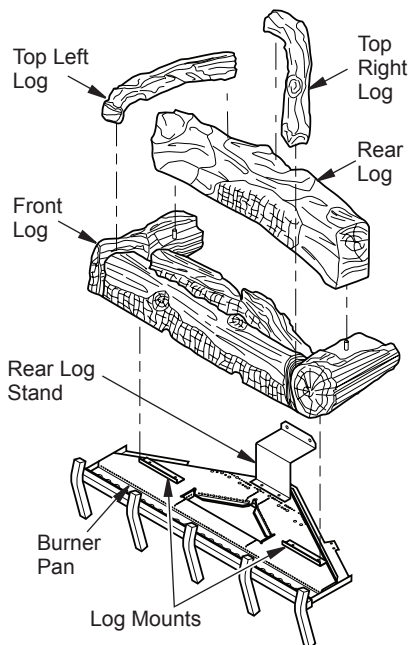

Figure 46 - Installing Logs
1. Position base log onto burner log mounts (see Figure 46). *Note: Cut out on the bottom should fit over mounts and base log should be positioned against rear panel.*
2. Position holes on the bottom of rear log over pins on base log see Figure 46).
3. Position top left log and top right log onto rear log and base log as shown in (see Figure 46).